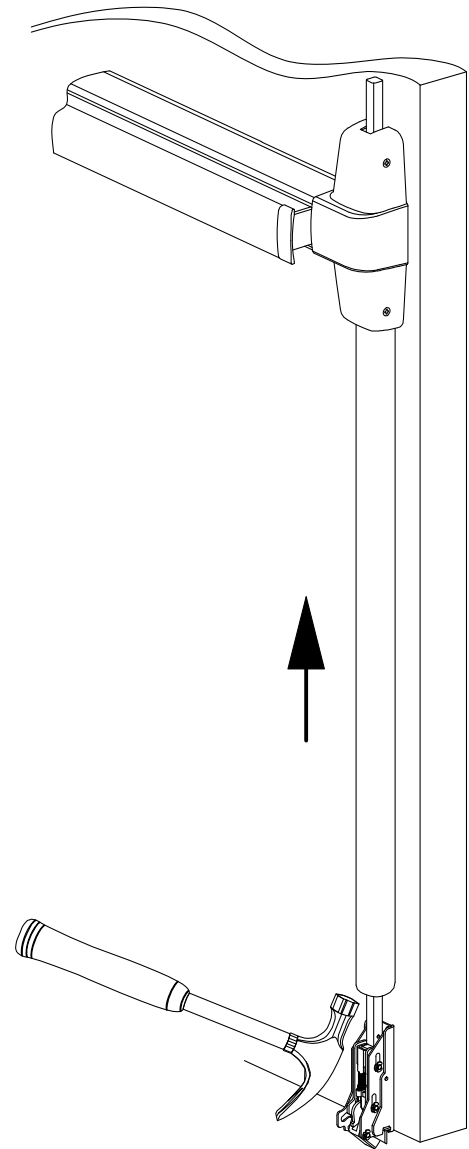

Figure 8
- 14 Hold rod guard in place and tap lightly with a hammer until rod guard touches center case cover (Figure 8).